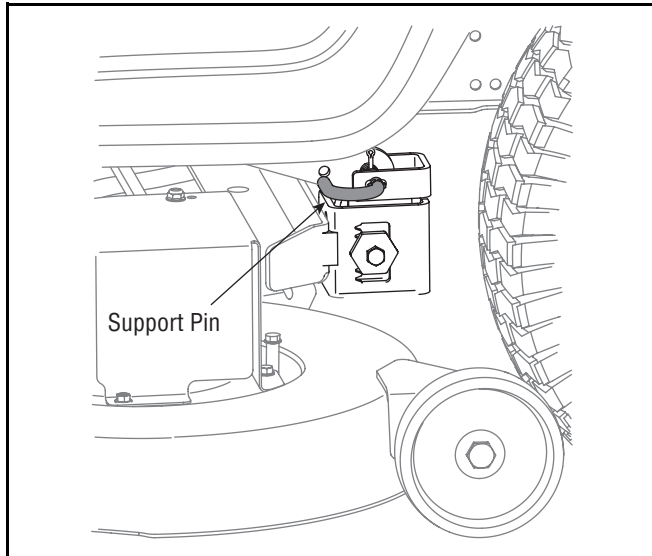

**Figure 19**
- Remove the hairpin clip that secures the PTO cable to the rear of the cutting deck. See Figure 19. Remove the PTO cable and accompanying spring from the cutting deck.